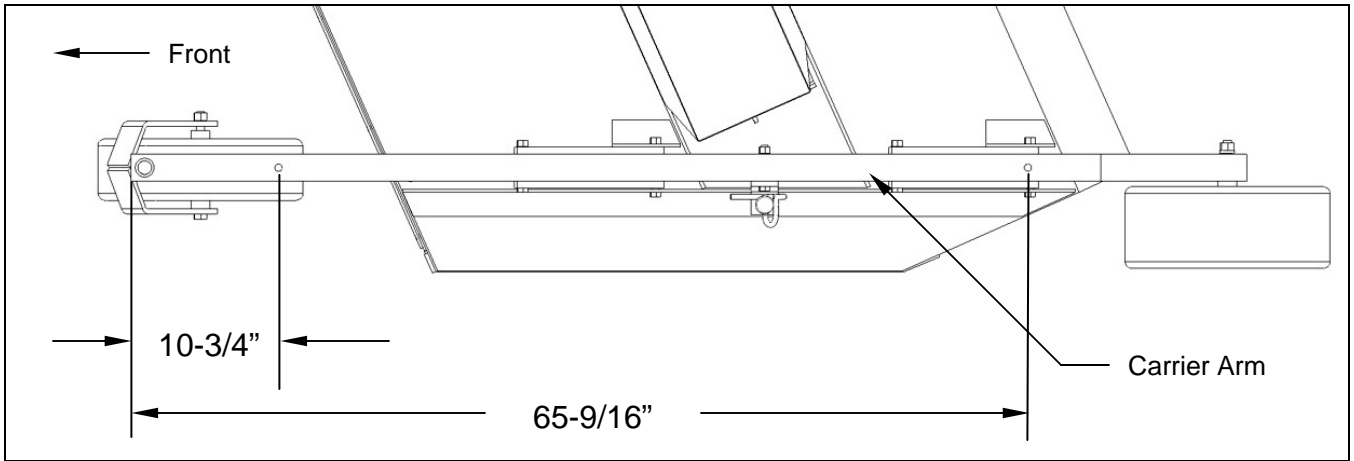

Figure 1. Carrier Arm Hole Location
### A. CARRIER ARM PREPARATION (Refer to Figure 1)
1. For models that already have mounting holes present, section A. can be omitted. For models with the electric lift kit installed or any 44" rough cut models, refer to section E. For models without mounting holes, locate the hole positioning according to figure 1. The measurement should be taken from the front edge of the carrier arm and extend to the center of each hole. The front hole should be at a distance of 10-3/4" from the front edge of the carrier arm and the rear hole should be 65-9/16" from the front edge of the carrier arm. Hole positioning will need to be located on both the left and right carrier arms.